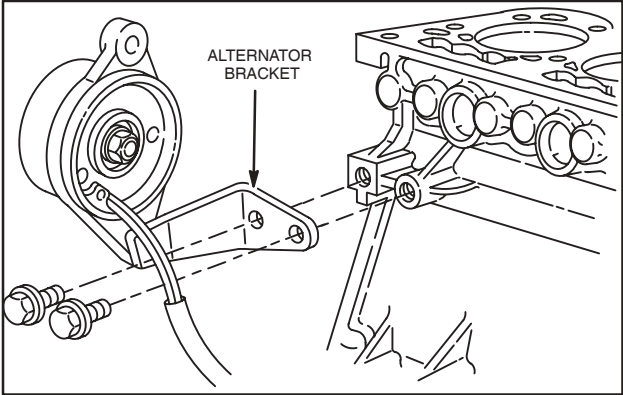

Fig. 2 – Removing Alternator
- 5. Remove alternator bracket and alternator, Fig. 2.